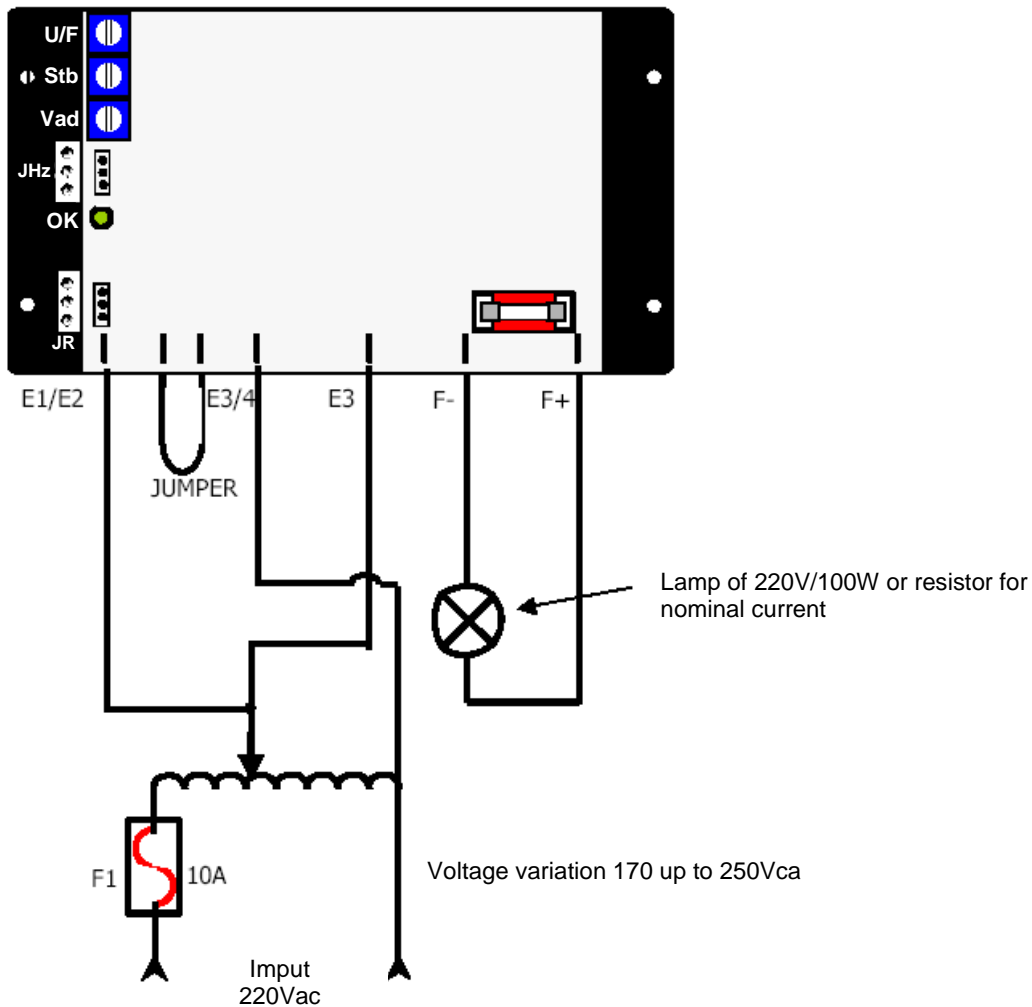

Figure 19.1: Regulator connection without generator
1. The lamp voltage must be the same voltage applied on the input. The Figure 19.1 shows an example using a 220V/100W lamp.